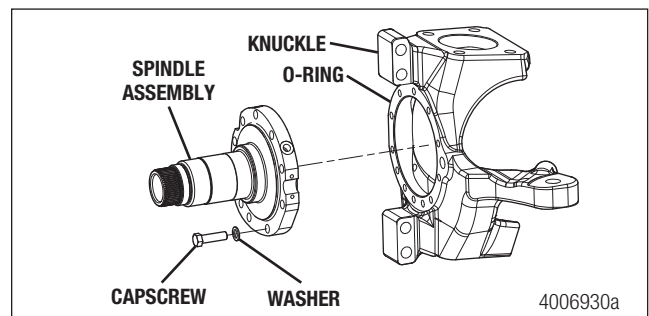

Figure 13.3
5. Align the spindle end assembly with the bolt holes and ABS sensor bracket hole. Place the spindle end assembly in position on the steering knuckle. Figure 13.3.